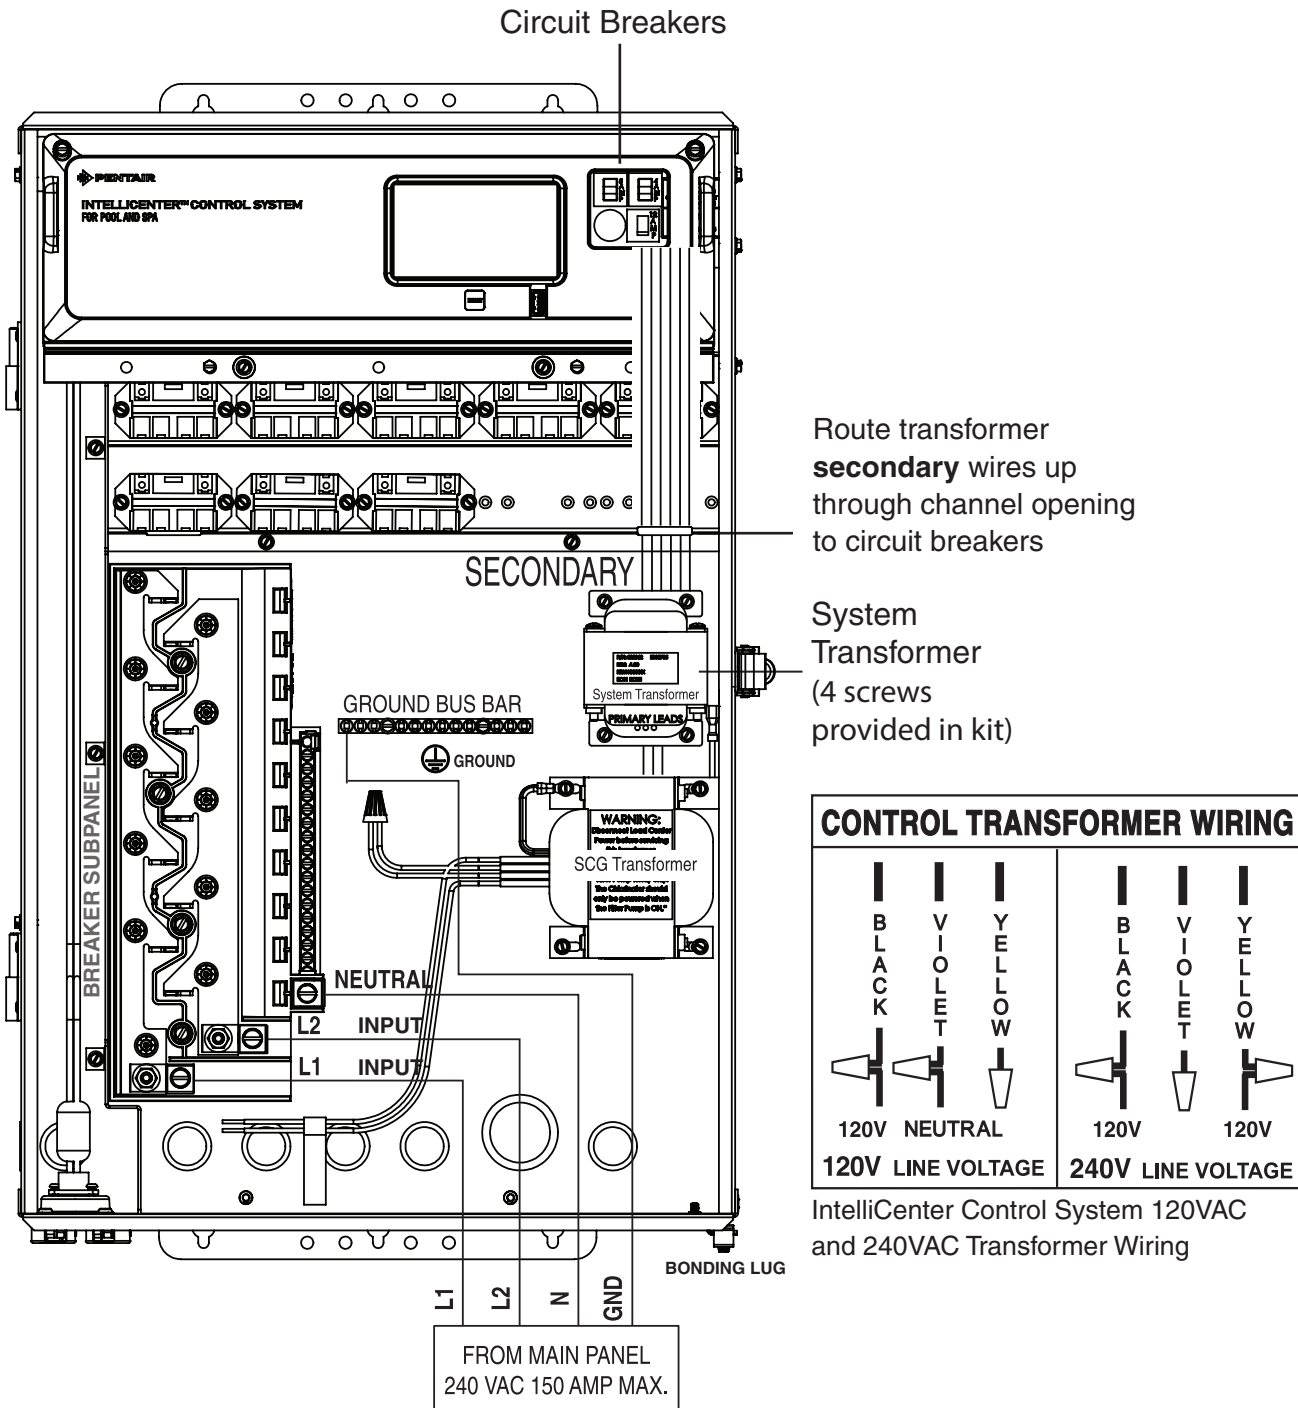

Figure 6. Wiring the System Transformer (Load Center or Power Center 2012 or later)
2. **Wiring the Low Voltage Transformer:** Mount the new transformer (6) (P/N 522102) onto the back wall of the enclosure. Secure it with the four screws (7) (P/N 520222, provided in kit). See Figure 6. Route the transformer (and Circuit breakers) secondary wires through channel opening up to the circuit breaker bracket.